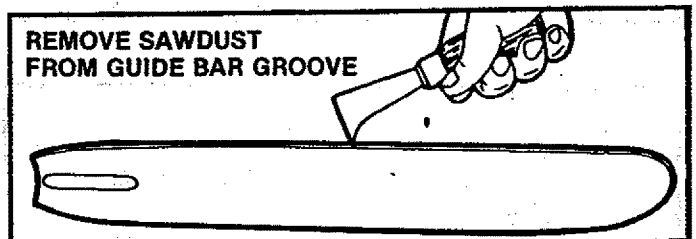

Figure 41
- Maintain rounded front corner of depth gauge with a flat file. Figure 41.
- Remove sawdust from the guide bar groove periodically with a putty knife or a wire. Figure 41.